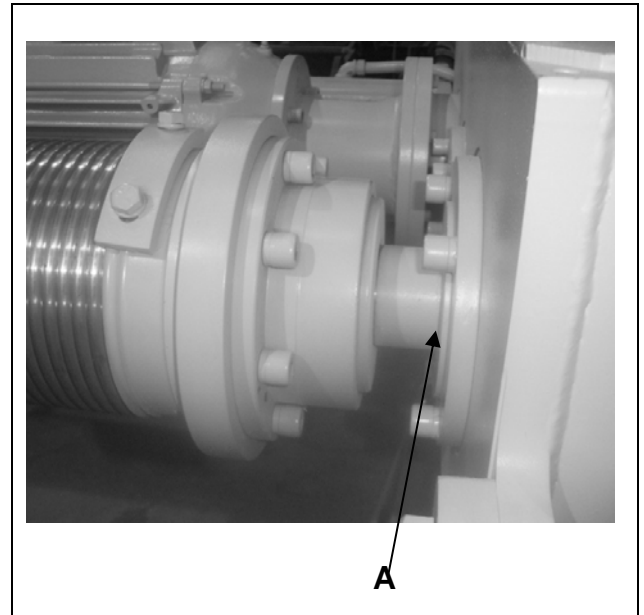
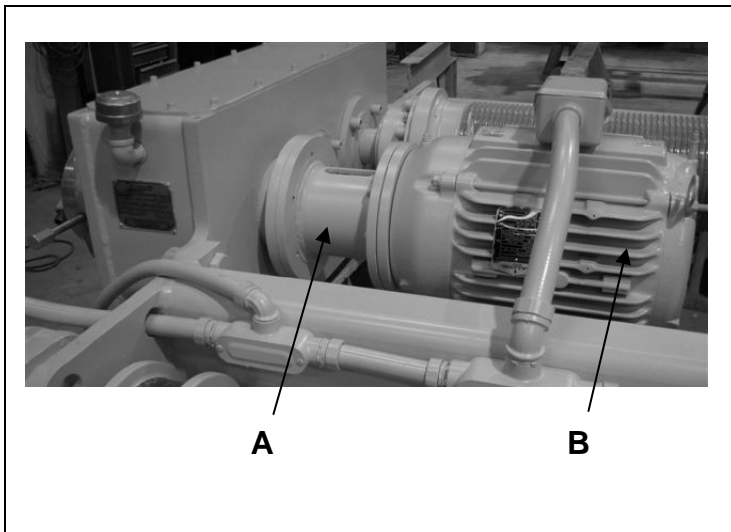

Fig. 3-4
Fig. 3-5,
- e) Are all couplings, pinions, or other drive components installed on shaft extensions with keys and fasteners in place? (Fig 3-4(A) and Fig 3-5(A)).
- f) Check drive motor and make sure it will drive the gearbox unit input shaft in the correct direction (Fig 3-5(B)).